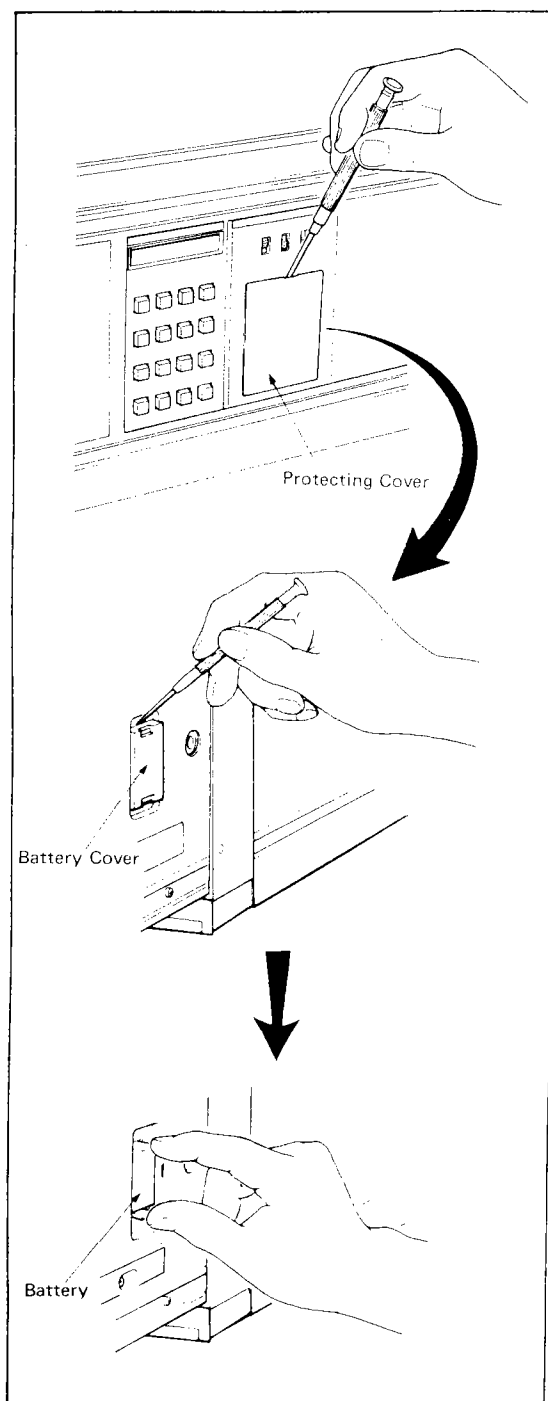

Figure 7-4. Data Backup Battery Replacement.
- (1) Pull the internal unit a little out of the housing. Remove the protecting cover, battery cover and battery (see Figure 7-4).
- (2) Mount a new battery and fit the battery cover and protecting cover securely.
- (3) Make sure that the ALM lamp on the front panel has stopped flashing.